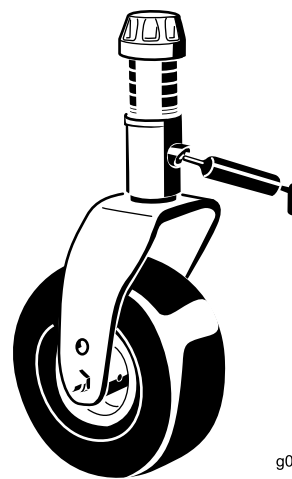

Figure 68
- 1 caster-fork-shaft bushing (Figure 68)